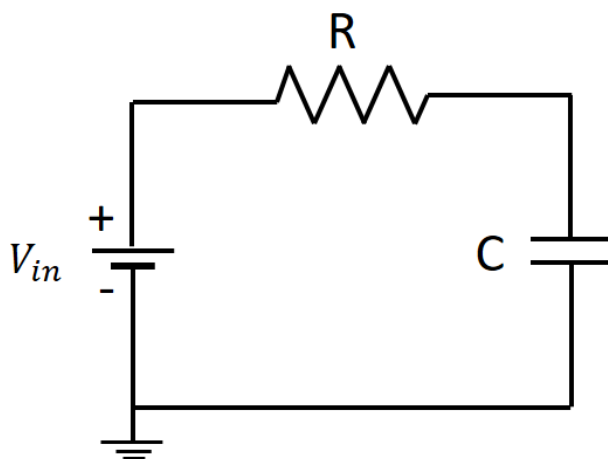

Figure 1.3: Circuit diagram of the experiment
As per the RC circuit given in Fig. 1.3, the capacitor will charge up through the resistor connected in series with time until the voltage across the capacitor (V_C) becomes equal to supply voltage (V_S). The time constant specifies the rate of charge or discharge and can be defined as, $\tau = R \times C$, where R is in ohm and C is in Farad where the τ is in seconds. In the given circuit, at any point of time (t) the voltage across the capacitor can be given by, $V_C = V_S(1 - e^{-t/\tau})$.
1. Connect the circuit as per the Figure 1.3. and make sure the capacitor is completely discharged.